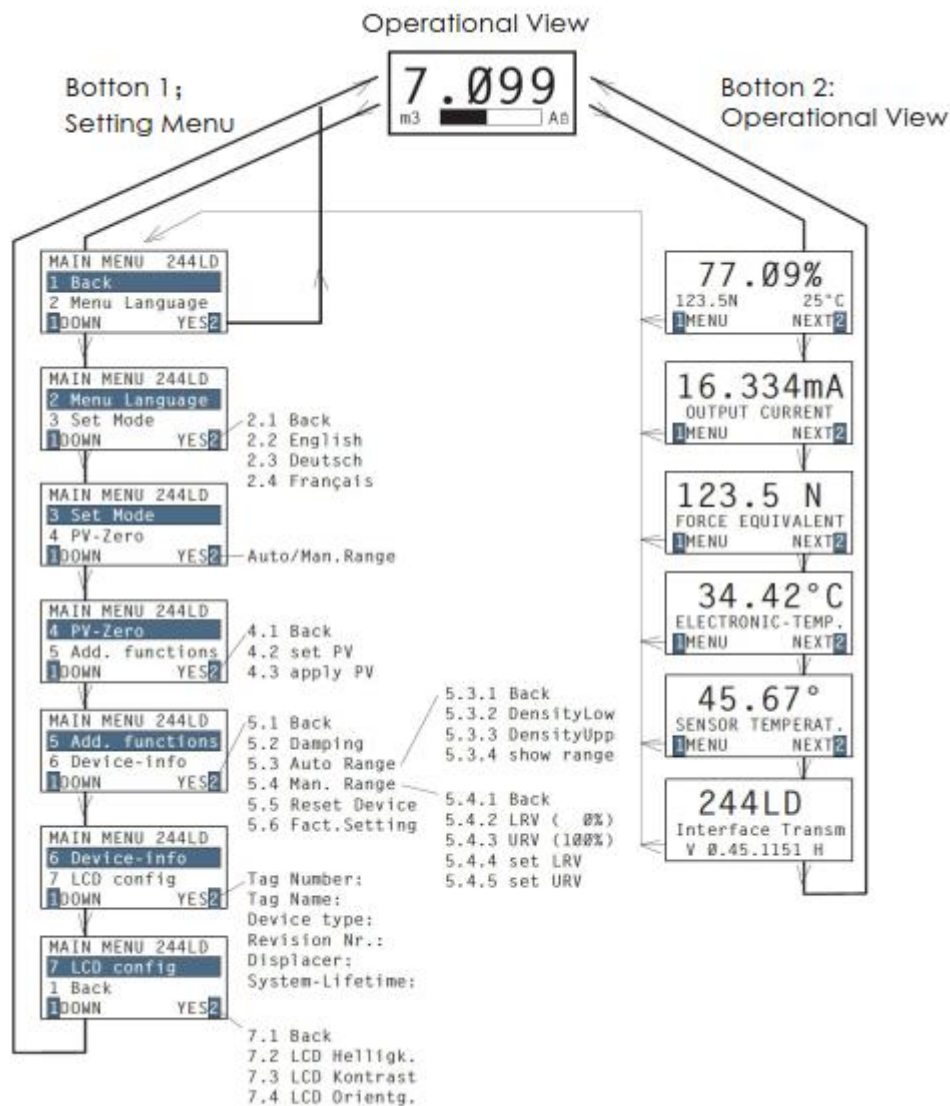

Figure 13
Starting from the operation view, press ② to toggle operation specific items; press ① to toggle options in the main menu, as detailed in Figure 13. If no key is pressed within 5 minutes, the display will automatically return to the operation screen.